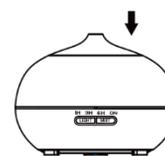

Figure 4
6. Put the cover on the tray. Do not tilt the diffuser to prevent the contents from spilling. Figure 4